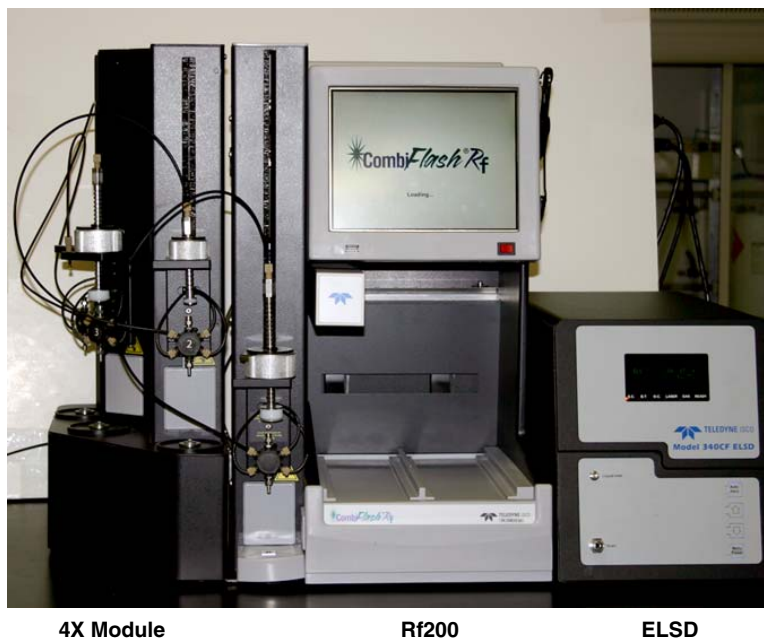

Figure 3-6 Component arrangement for connection with Rf200 and 4X module
1. Place the ELSD next to the Rf200, opposite the 4X module, as shown in Figure 3-6.